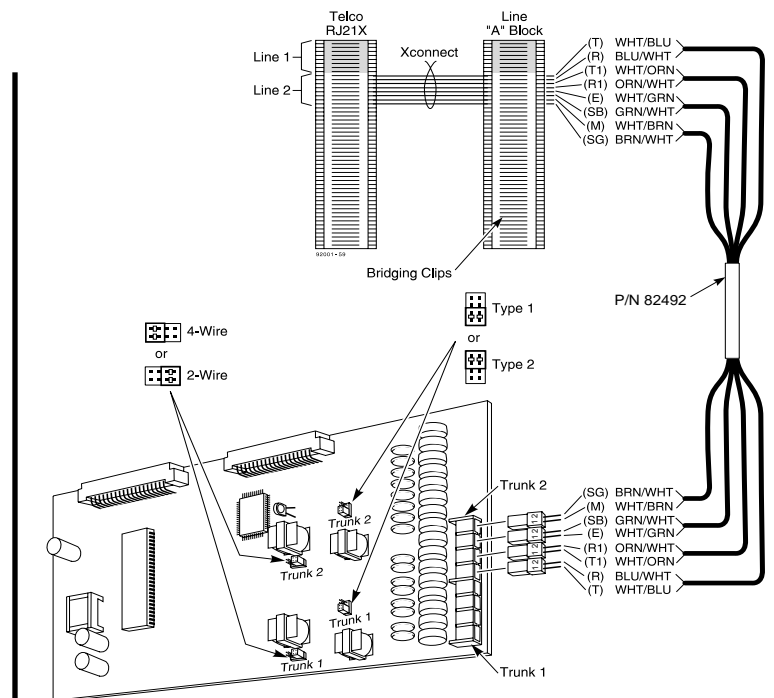

Figure 2-19 TIE LINE (2EMTU) PCB
#### E&M Tie Line (2EMTU) PCB (Figure 2-19)
1. Set the strapping options on the 2EMTU PCB as required (see Figure 2-19).